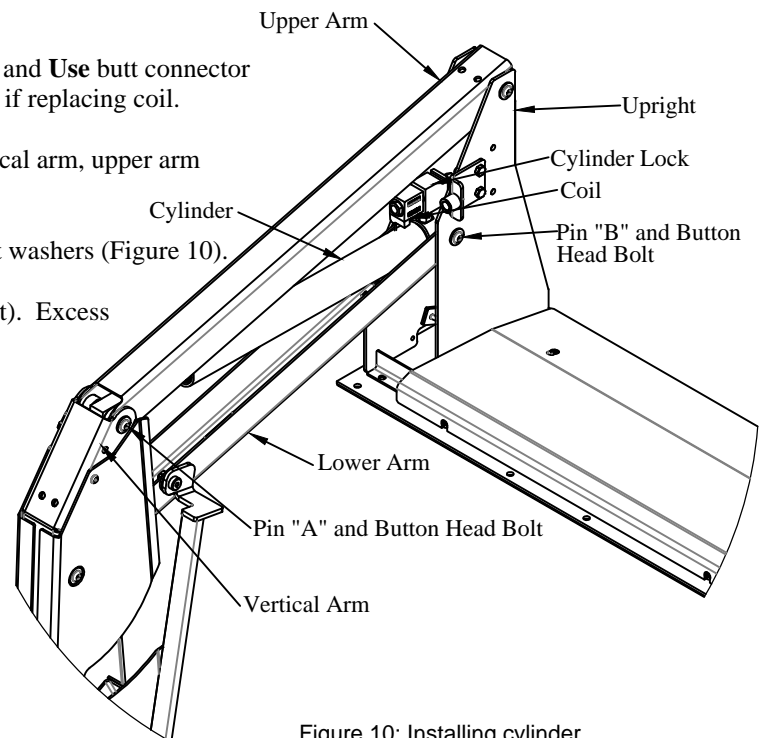

Figure 10: Installing cylinder.
- 2. Install** pin "B" from the outboard side, through the lower arm, cylinder and uprights (Figure 10).
- 4. Install** the coil on the cylinder lock (Figure 10).
- 6. Insert** new pin "A" from the outboard side, through the vertical arm, upper arm and cylinder (Figure 10).
- 7. Secure** pins "A" and "B" with new button head bolts and flat washers (Figure 10).